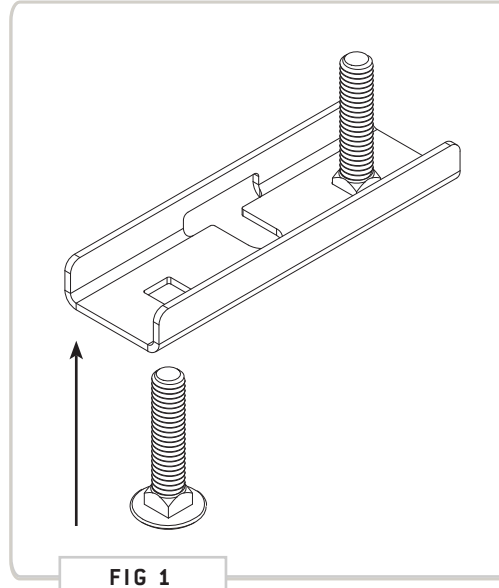

FIG 1
**1.1 Install Anchor Stud Brackets:** Insert two 5/16-18 Carriage Bolts through an **Anchor Stud Bracket** (FIG 1) and slide the assembly into place along one of the **Anchor Stud** along the rooftop of the van (FIG 2).